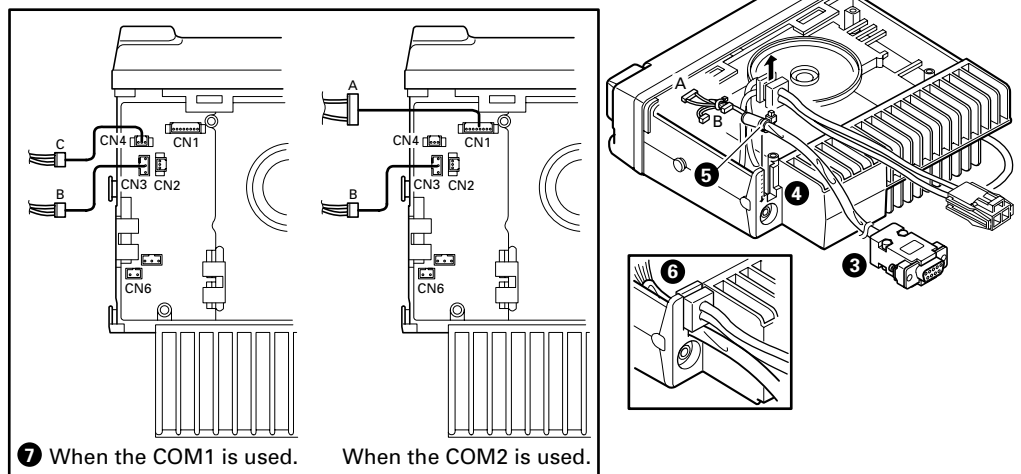

Fig. 9
5. Insert the KCT-31 cable (❸) into the chassis (❹). The write retaining band (❺) must be inside the chassis.
6. Replace the DC cable bushing (❻).
7. Connect the KCT-31 to the TX-RX unit (A/2) as shown in Figure 9 (❼).